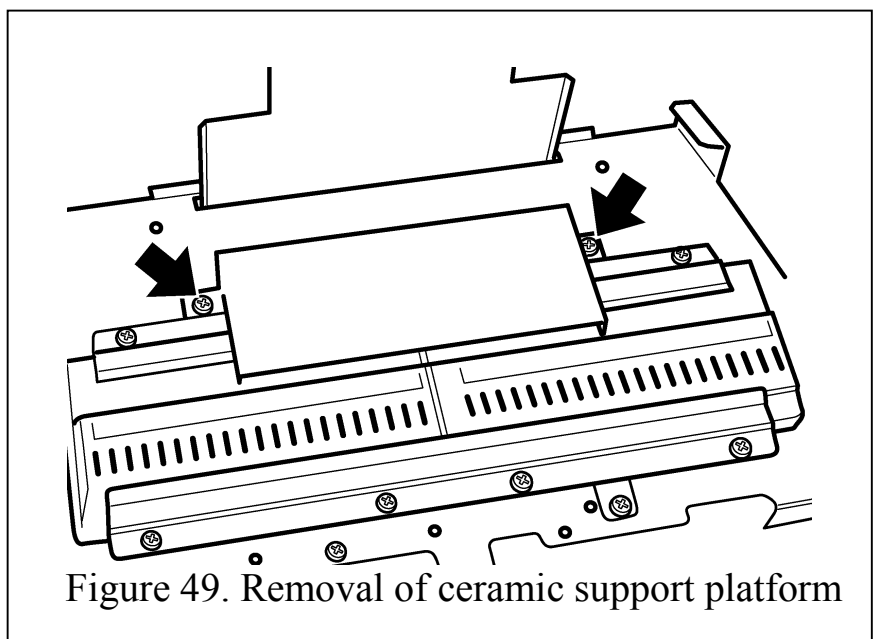

Figure 49. Removal of ceramic support platform
- Remove the ceramic support platform (See figure 49)